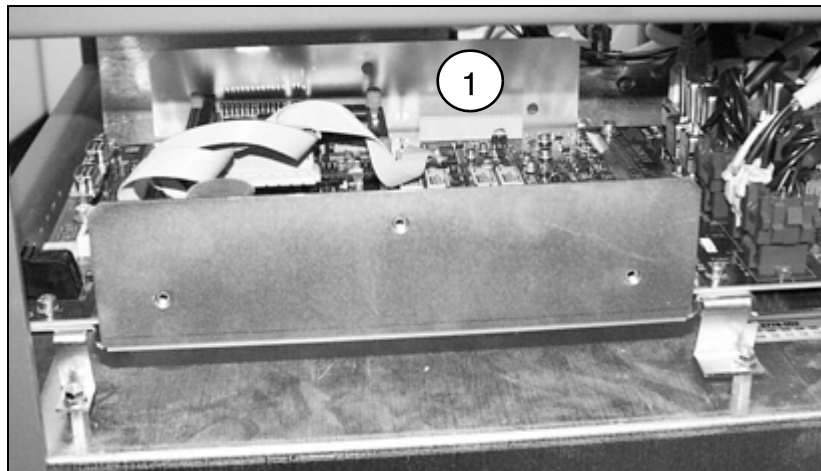

Fig. 52: Controller 2
- Place the additional MUP D3 board from the conversion kit in position (1/Fig. 52 / p. 49) and screw it in place.